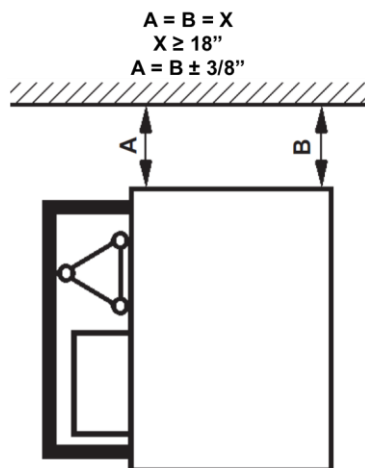
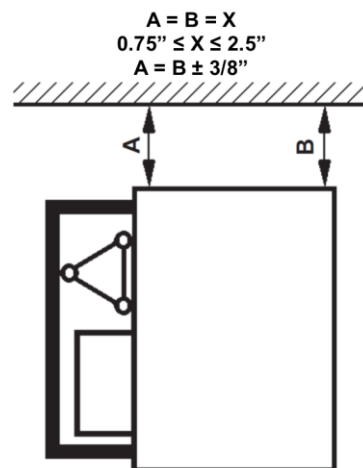

Figure 6.4
Figure 6.5
- **this distance must not be less than 18 in. if installing the unit as a Transport Platform as indicated in ANSI/SAIA A92.10 as shown in figure 6.4 (if using landing doors for a transport platform supplied by BETAMAX set the unit 24 inches from the building for the door to function properly) or if installing the unit as a Material Hoist is not greater than 2.5 in. as shown in figure 6.5 in order to ensure the loading unit passes through with no difficulty and no risk of collision**